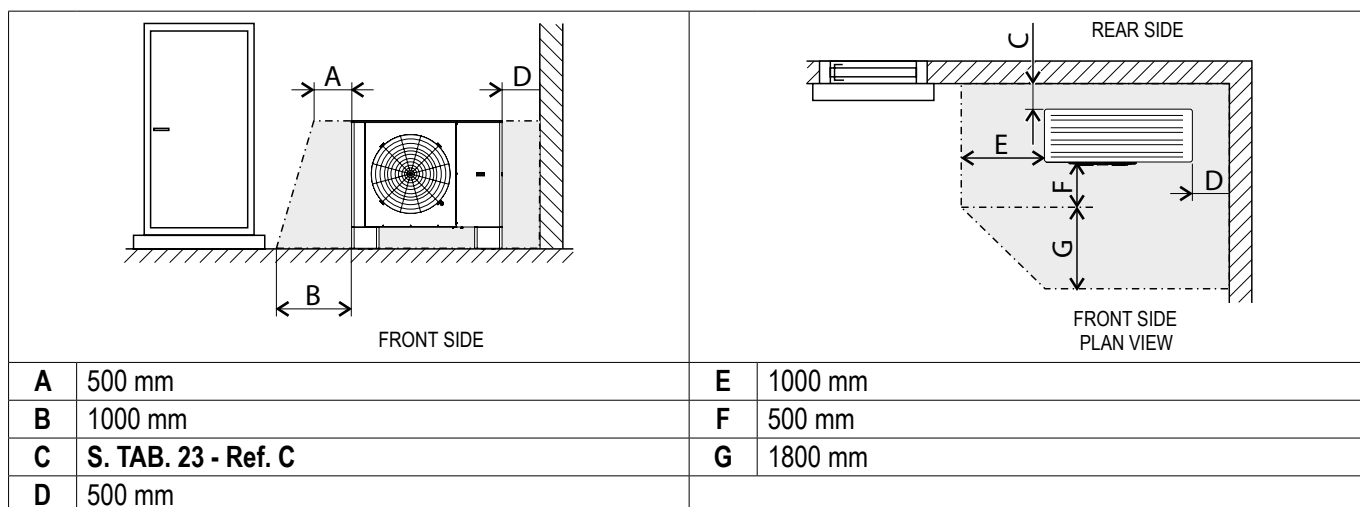

FIG. 37 (Safety zone for ground installation in a building corner)
TO PREVENT THE TRANSMISSION OF VIBRATIONS ON ADJACENT BUILDINGS, USE CONNECTING LINES TO THE MACHINE WITH A LENGTH OF AT LEAST **0.75 m** (s. FIG. 37).
- 1) Unscrew and remove the cover caps (FIG. 37 - Ref. 3) from the delivery (FIG. 37 - Ref. 5) and return (FIG. 37 - Ref. 4) connections
- 3) Install a flexible pipe (FIG. 37 - Ref. 6) with a gasket (FIG. 37 - Ref. 2) and a shut-off valve in the connection of the heating return to the building
- 4) Install a flexible pipe (FIG. 37- Ref. 1) with a gasket (FIG. 37- Ref. 2) and a shut-off valve in the connection of the heating supply to the heat pump
- 6) Cover the pipes with insulation (FIG. 37 - Ref. 7)